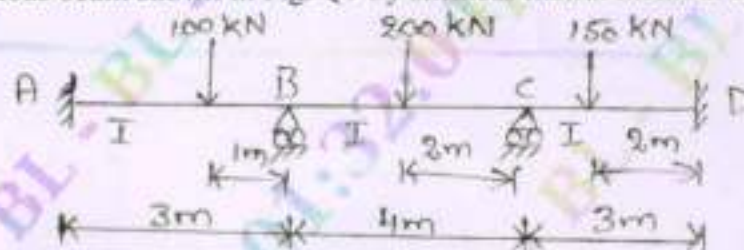

Fig. Q9
- 9 Analyze the continuous beam shown in Fig. Q9 by stiffness matrix method. Draw BMD.